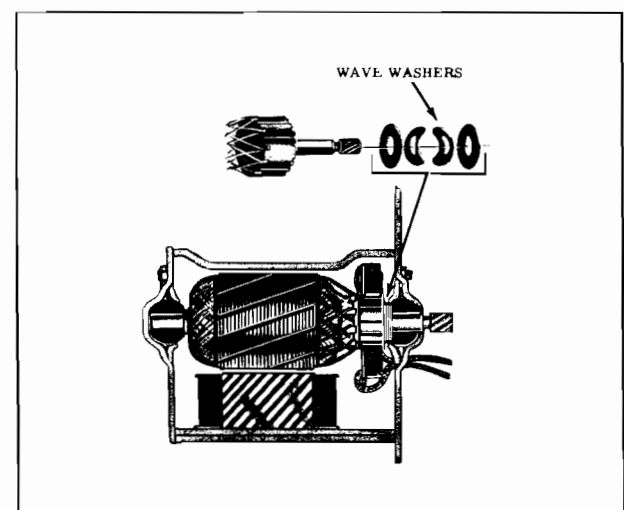

FIGURE 23
7. Remove end play washers from commutator end of armature shaft. When re-assembling armature in wiper install washers as shown in Figure 23.